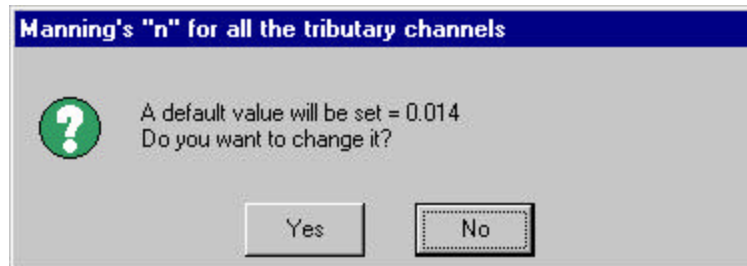

Figure 8.5
- c. When writing of the `.sub` (subbasin general input) database begins, a prompt box appears (Figure 8.5) offering two options for defining Manning's roughness factor for the tributary channels in all subbasins.